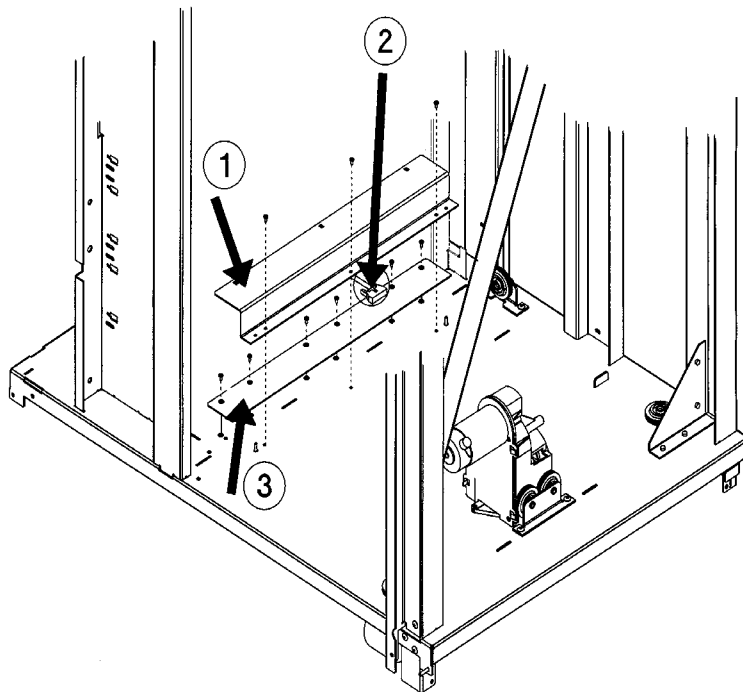

Figure 83: Vertical-Path-Clear Enclosure and Mounting Screws
Extra panels are removed in Figure 83 for parts visibility in this description.
2. Remove the three T-20 screws that mount the PCA cover (#1 on Figure 83).
3. Remove the cable from the rear of the PCA (#2 on Figure 83).
4. Remove the six T-20 screws that mount the PCA to the chassis (#3 on Figure 83). Remove the PCA.